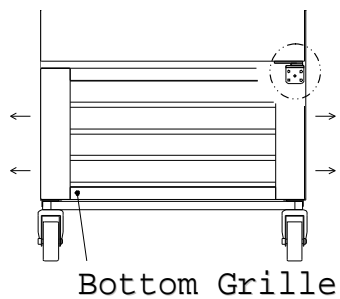

Figure 1.
STEP1. Remove the door (Figure 1)